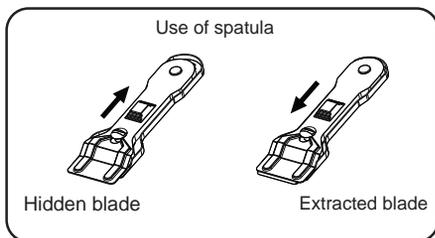

Fig. 7
- Once you are done with the spatula, retract the blade and lock it. (See Fig. 7)